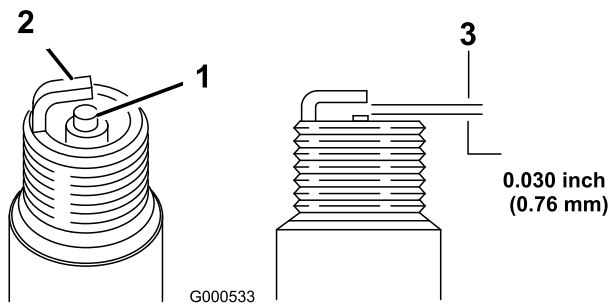

Figure 21
5. Set the gap on the plug to 0.030 inch (0.76 mm) (Figure 21).